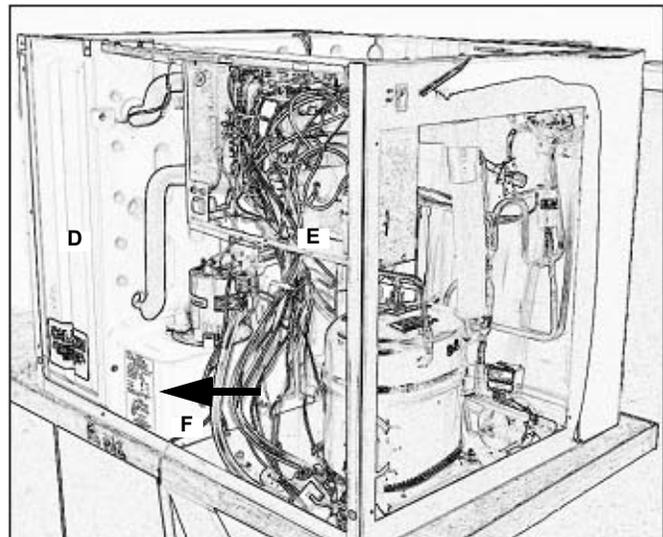

Figure 9.
3. Remove the evaporator splash panel (D) and control box cover (E) [not shown] (Figure 9).
The refrigerant type and charge are indicated on the serial plate, located on the water pan (F) (Figure 9). This charge amount does **NOT** include that which is normally present in a factory charged condenser or line set.